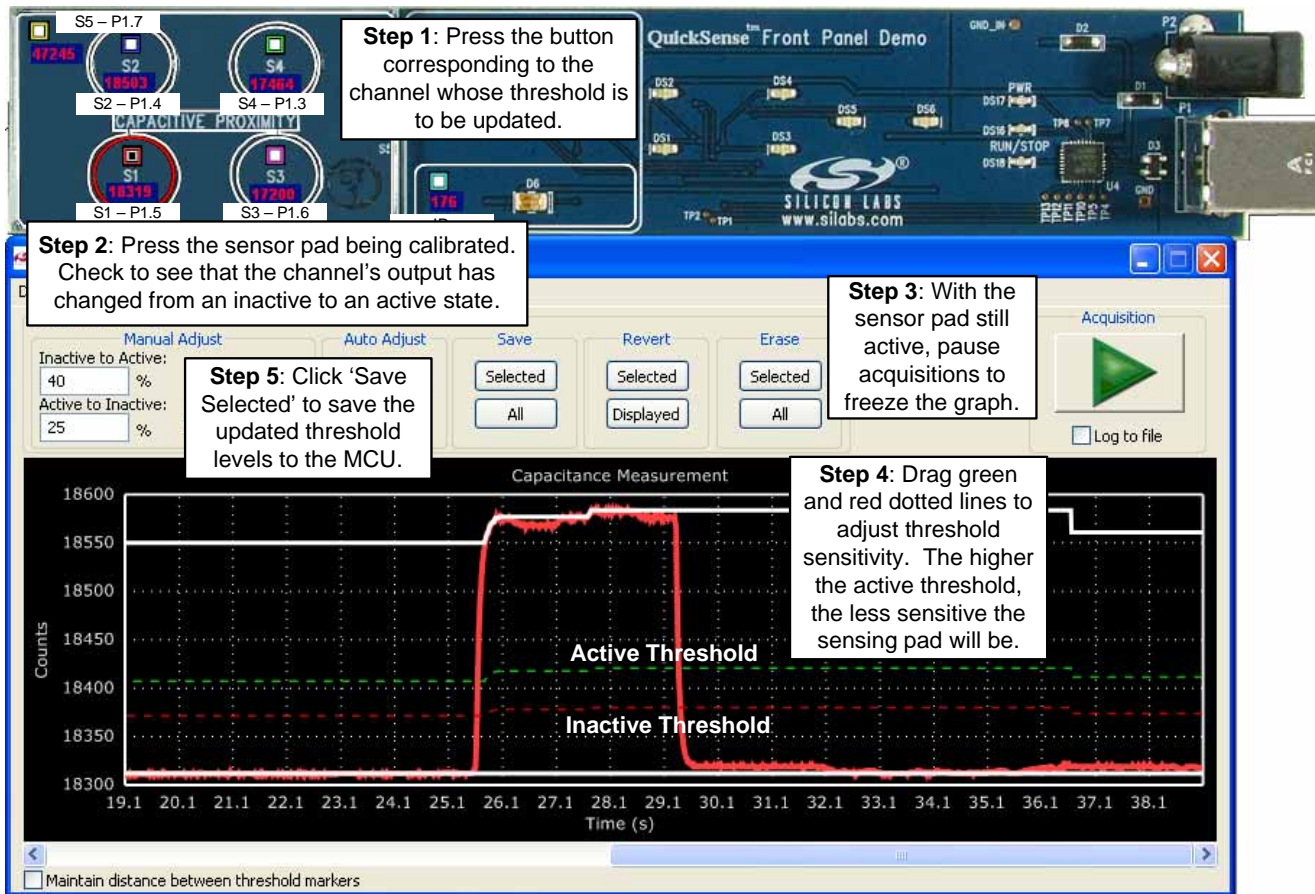

Figure 4. Channel Threshold Update Process
7. A channel's active and inactive thresholds can be adjusted to increase or decrease a sensing pad's sensitivity or IR sensitivity. Figure 4 shows the steps involved in updating a channel's thresholds.